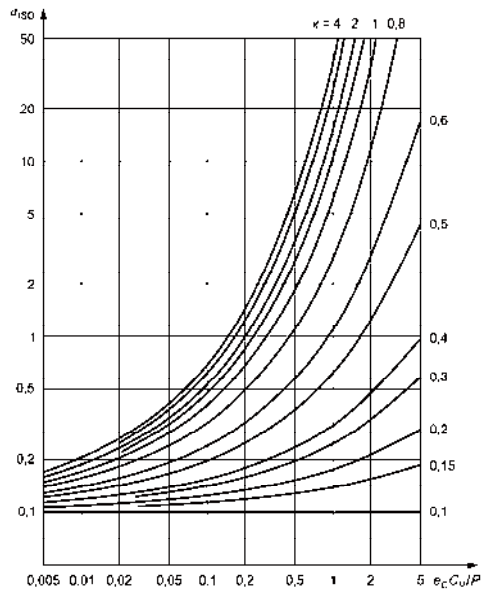

Fig. 6.12
- Fig. 6.12 for radial roller bearings